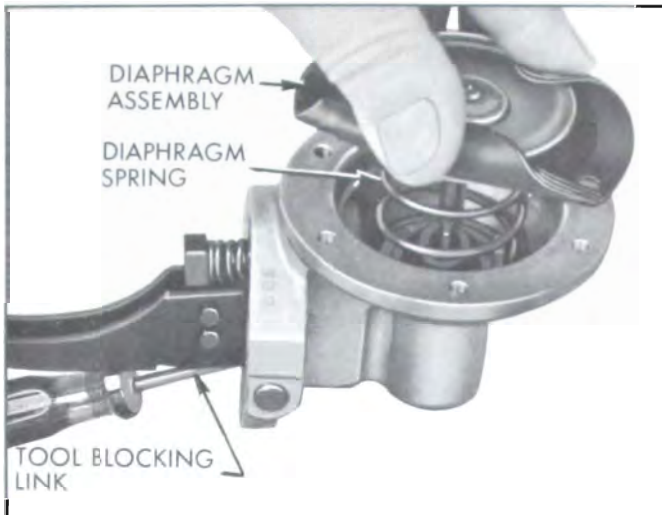

Figure 3-18—Installing Diaphragm Assembly
3. Block link in position farthest toward diaphragm by jamming a thin tool between link and pump body. Place diaphragm spring in body, place cup shaped spring retainer on end of spring, then push diaphragm pull rod through these parts with flat of rod at 90 degrees to link in body. Hook pull rod over end of link. See Figure 3-18.